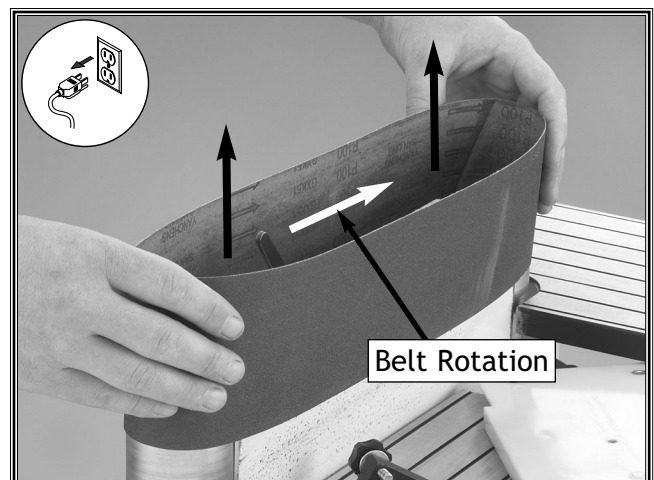

Figure 25. Removing sanding belt.
5. Remove sanding belt as shown in Figure 25.
6. Install a new belt with the arrows in the proper direction (Figure 25 white arrow), tension it, and replace the belt guard.
Lubricate the unpainted the work tables regularly (Figure 25) to prevent rust and ensure a smooth sliding action from the tool post holder and the tailstock. Your goal is to achieve adequate lubrication. However, too much lubrication will attract dirt and sawdust, which may cause these components to lose their freedom of movement.